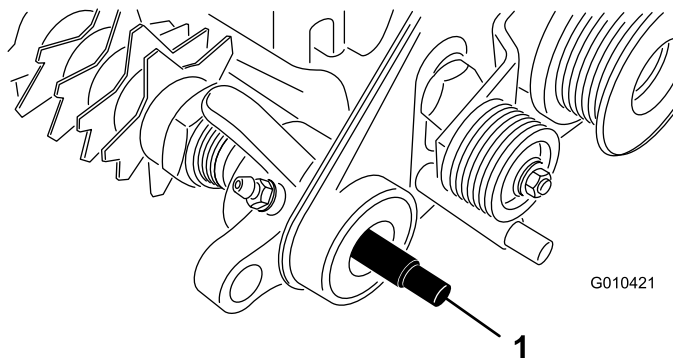

Figure 7
1. Apply grease to the seal in the drive-assembly-bearing support and to the end of the groomer shaft (Figure 7).
2. Slide one end of the groomer shaft into the drive-assembly-bearing support (Figure 7).